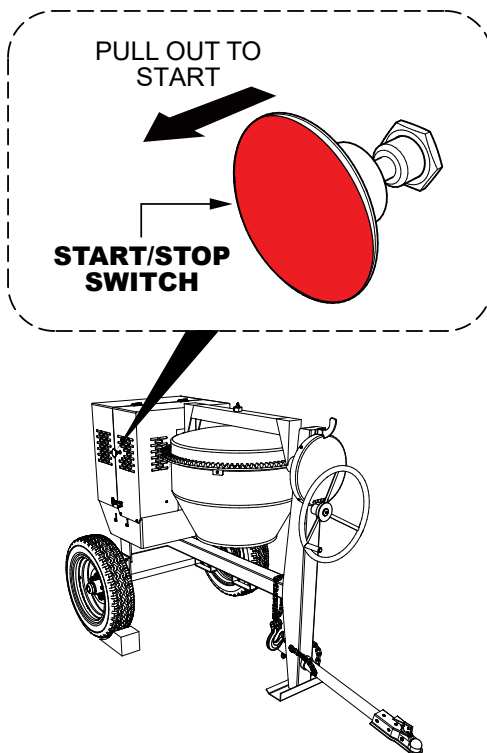

Figure 18. Engine Start/Stop Button
5. Located at the rear of the mixer frame is the main **start/stop** button (Figure 18). Pull this button outward to start the engine.